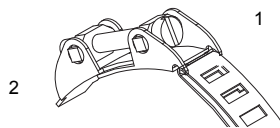

Fig. 9.2: Clasp with tension strap
- Pull approx. 2 cm of the tension strap through the slot of the clasp (see Fig. 9.2) to fix the clasp to the tension strap.
- Insert the tension strap through the parts (2) and (1) of the clasp (see Fig. 9.2).